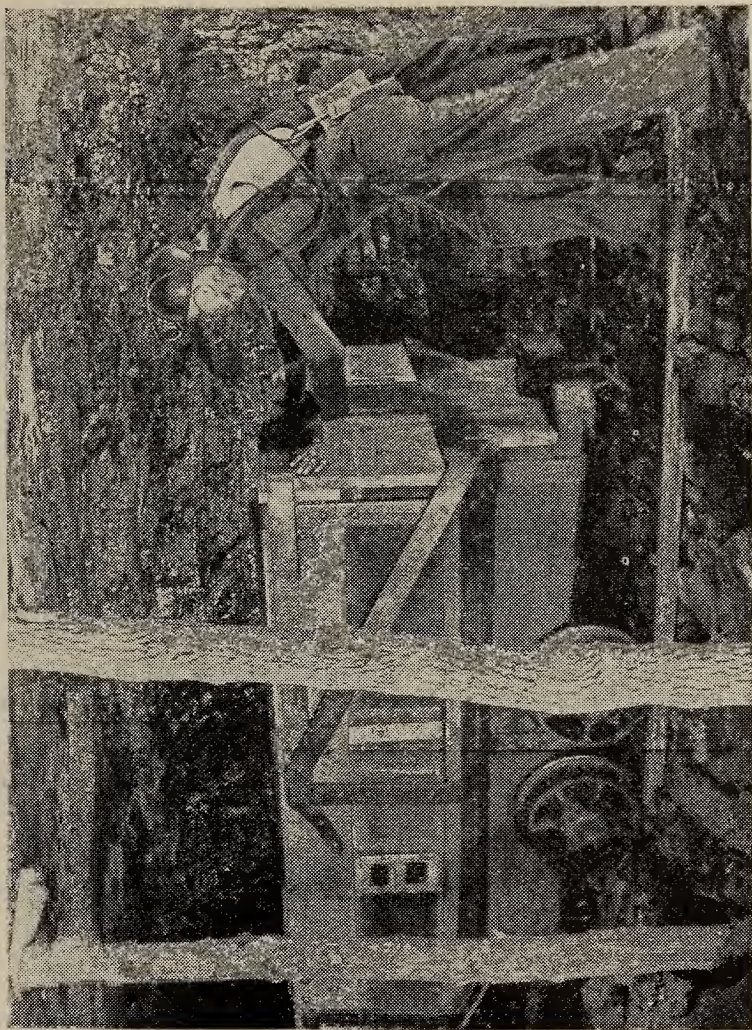

FIGURE 21.—In pushing cars by hand, the hands should be kept safely away from the top of the end gate or the sides of the car.
A. Trips should never be pushed. (See fig. 21.)